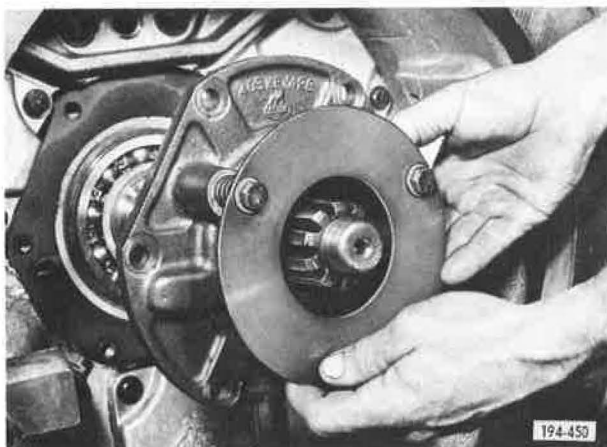

Figure 5-72. Removing Main Driving Pinion Bearing Cover
6. Remove main driving pinion bearing cover capscrews and cover. See Figure 5-72. Tap on gear end of main driving pinion with a nylon mallet if necessary and remove assembly from case.